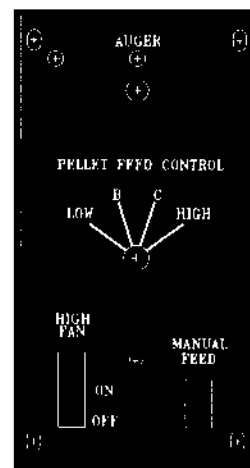

Figure 12
- Fill burn pot by hand or by pressing "MANUAL FEED" switch on control panel (see figure 12) to just below bottom row of air holes. Add approved fire starter (see section 3.92j), light and close door. Keep door tightly closed during operation.